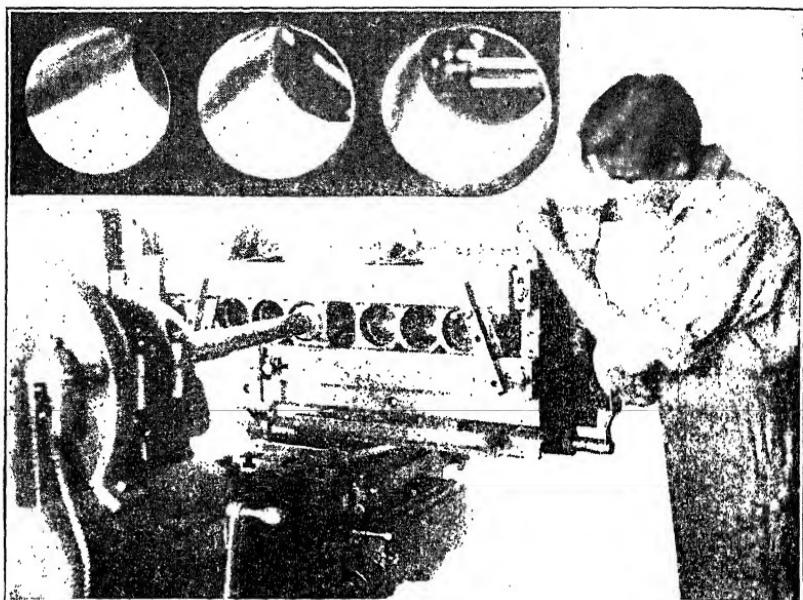

Fig. 23. A Six-Cylinder Block Set Up on a Heald Cylinder Grinder, with the Grinding Operation in Progress on No. 3
**Grinding Cylinders with Cylinder Grinder.** There may be some cause for misunderstanding among those who enter the automobile work as to what cylinder grinding is. In the older sense of meaning of the term, all cylinder grinding was done on grinders on the order of the cylinder grinder shown in Fig. 23. This is a large machine such as is used in factories and in cylinder grinding shops. The one shown is the Heald grinder. The Landis is also a popular machine for this work.
hone to the trade and the work it does as honing. Most garage-men make this distinction. When they think of a job of cylinder grinding, they are thinking of the job such as that illustrated in Fig. 23.
The disadvantage of a hone or a reamer or any cylinder re-conditioning tool which is set up according to the old bore of the cylinders is one of alignment with the perpendicular from the crank-shaft axis. In other words, the bore of an old cylinder block may not be square with the crankshaft. This fact is proven time and again when the used blocks are put on an accurate machine such as shown in Fig. 23. It may be that half or more of the bores will "clean up" with the removal of .010 inch of wall metal. Then a cylinder will be found which is not "square" with the face of the cylinder block and the crankshaft axis. This cylinder, the bore